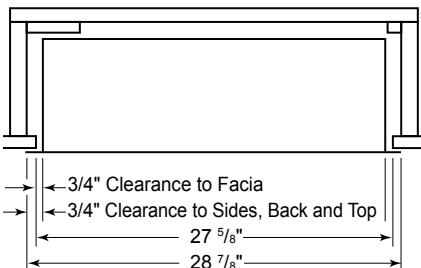

Figure 6 - Clearance to Combustibles
**NOTICE:** Surface temperatures of adjacent walls and mantels become hot during operation. Walls and mantels above the fireplace may become hot to the touch. If installed properly, these temperatures meet the requirement of the national product standard. Follow all minimum clearances shown in this manual (see Figure 6, page 13).
Built-in installation of this fireplace involves installing fireplace into a framed-in enclosure. This makes the front of the fireplace flush with wall. If installing a built-in mantel above the fireplace, you must follow the clearances shown in Figure 6, page 13.